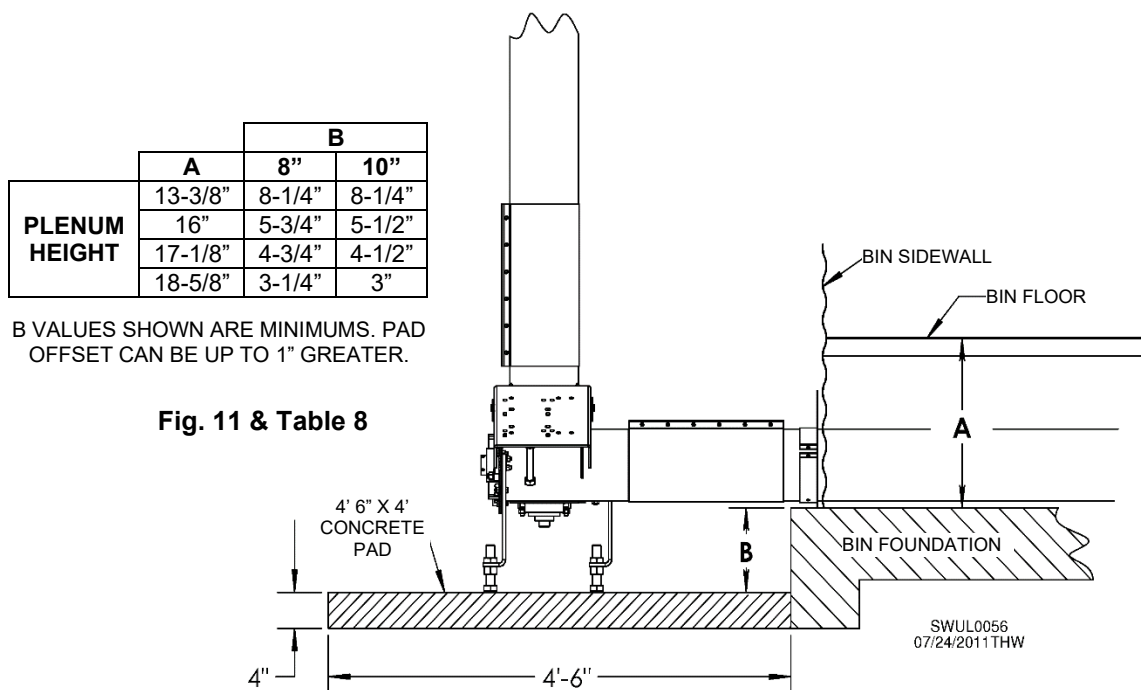

Fig. 11 & Table 8
A concrete pad, 4' 6" x 4' measured from bin foundation, is required for unload systems using vertical boot drive. Pad should be poured below level of concrete floor of bin, as shown in Fig. 11. Use Plenum Height table to determine pad offset (B) from bin floor. **NOTICE:** In northern locations, frost can lift pad, causing damage to unload system. Loosen threaded support legs in winter and re-tighten in spring.